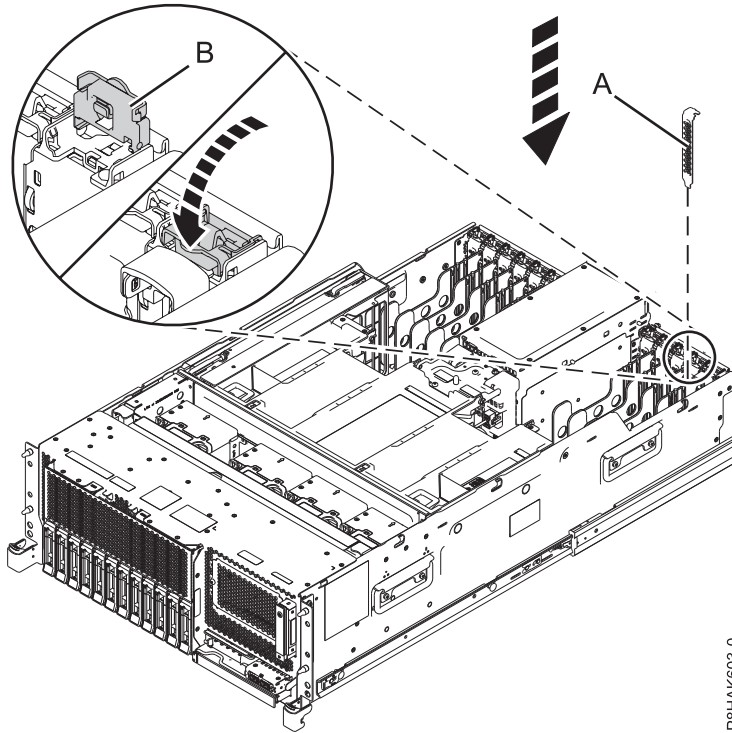
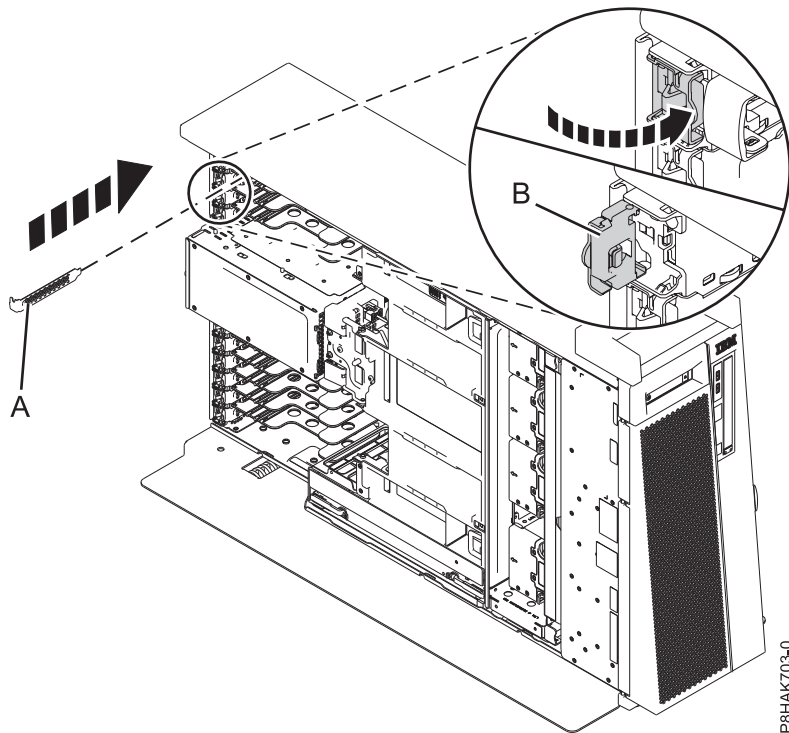

Figure 72. Installing a filler in a PCIe adapter slot in a rack-mounted system
Figure 73. Installing a filler in a PCIe adapter slot in a stand-alone 8286-41A system
- a. Carefully grasp the filler tailstock and align the filler with the slot and its connector on the system backplane, as shown in Figure 72 and Figure 73 on page 78.